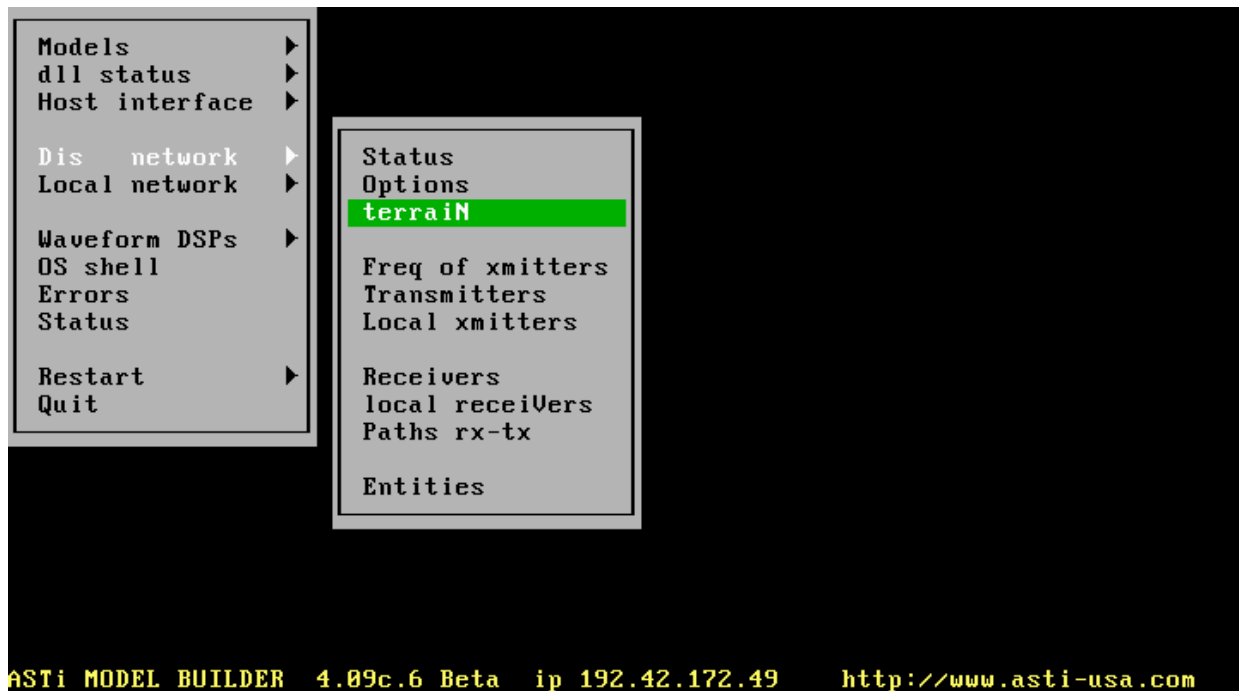

Figure 15: Accessing the Terrain Occulting Status Window in Model Builder
- If communications debugging is needed, verify that the two radios in question are in-range. Check the path loss values being returned from the HF Server on the “Paths” page in Model Builder. Select the “Dis network” option from the main menu, then “Paths rx-tx”, as shown in Figure 15.